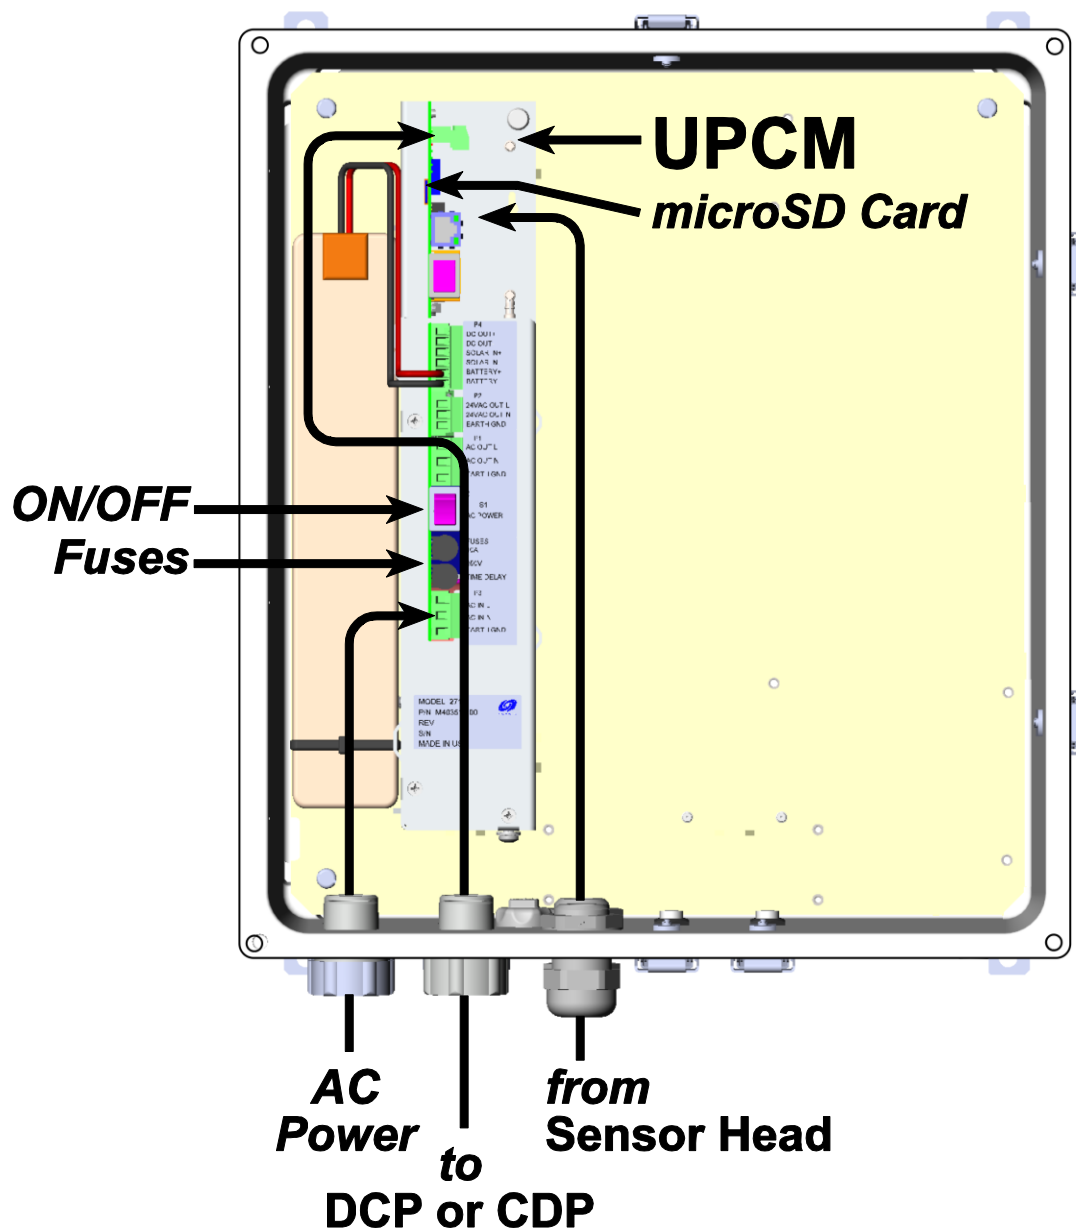
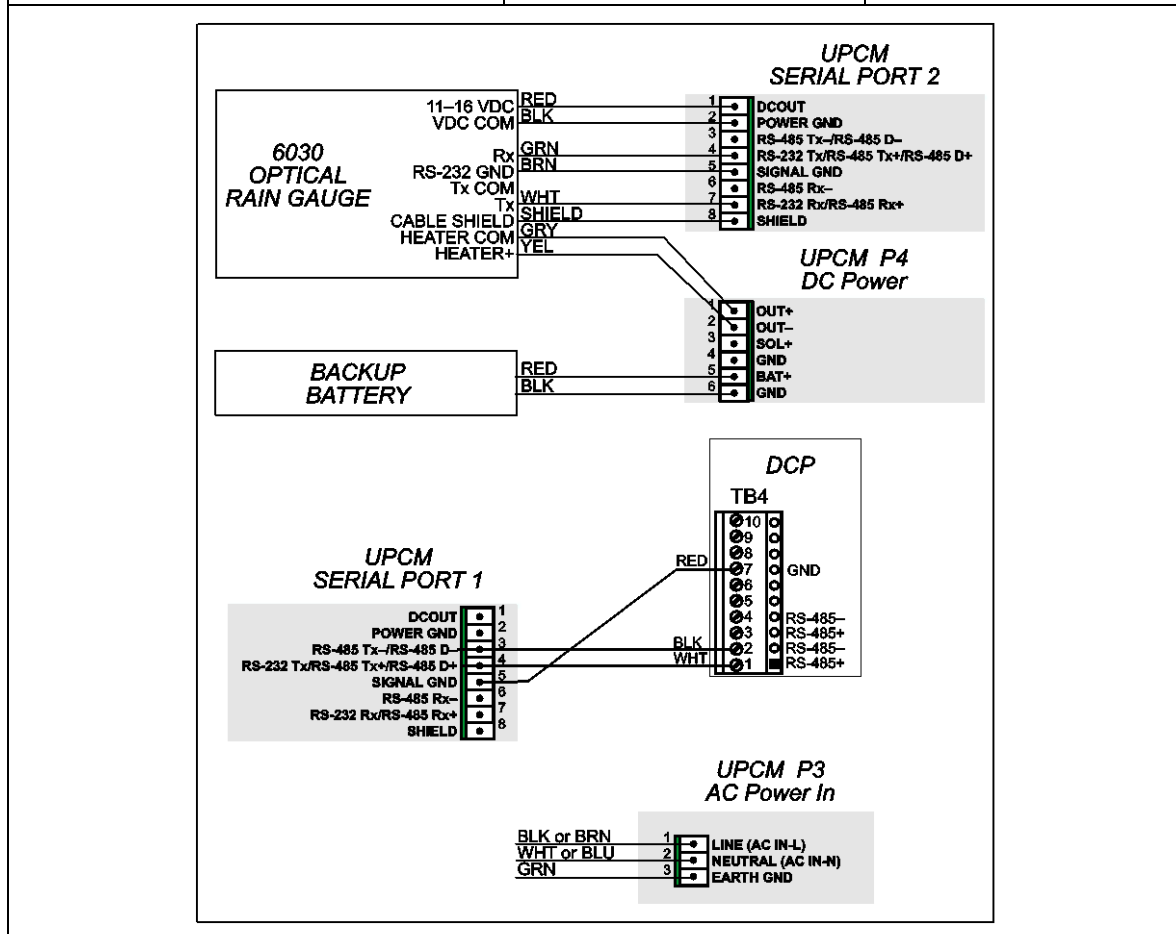
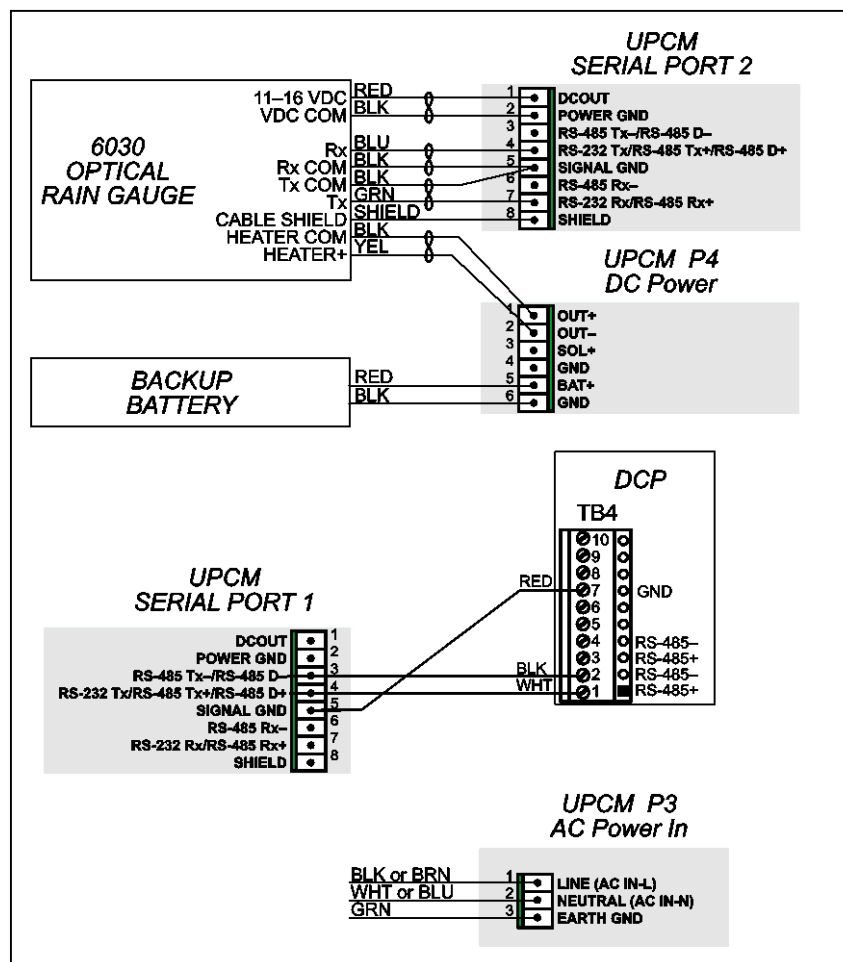

Figure 7. UPCM Connections Inside Enclosure
Figure 8. Optical Rain Gauge Signal and Power Wiring (non-twisted-pair sensor wiring)
Figure 9. Optical Rain Gauge Signal and Power Wiring
The electronics enclosure is a fiberglass NEMA-4X type box with a hinged access door. One power supply, and AC and RS-485 interface modules with surge protection are mounted to the base plate of the enclosure. Figure 7 shows the locations of these components inside the enclosure.
2. Connect the wires to the connector on the DIN rail shown in Figure 7 according to the wiring diagram in Figure 8.
Figure 7 shows the layout of the various electronics subassemblies inside the electronics enclosure.
Figure 8 and Figure 9 summarize signal and power wiring for the Model 6030 Optical Rain Gauge.
3. Plug the terminal block plug into P3, the AC Power In on the UPCM. Verify that the wire colors match those shown in Figure 8 before turning the power switch ON.
The microSD card containing the configuration file is normally kept in the microSD card slot. Figure 7 shows where the microSD card is located and shows the on/off switch referred to in this below. If it becomes necessary to change or review the configuration, you may remove the existing microSD card, place it in an adapter or a USB microSD card device, and use your computer to edit or review the configuration file using a text editor such as Notepad.